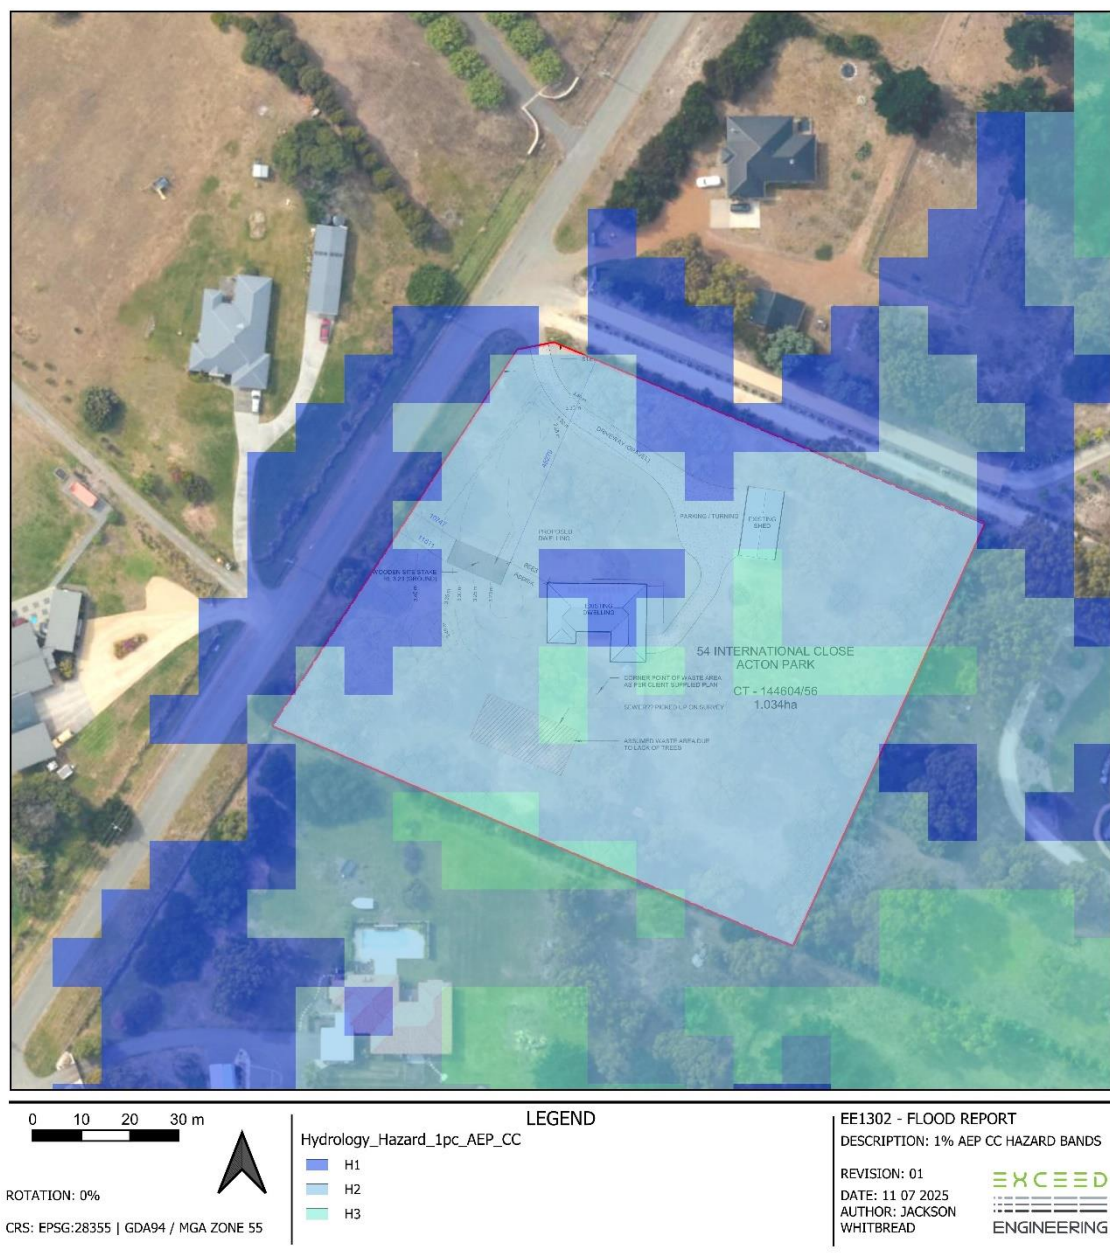
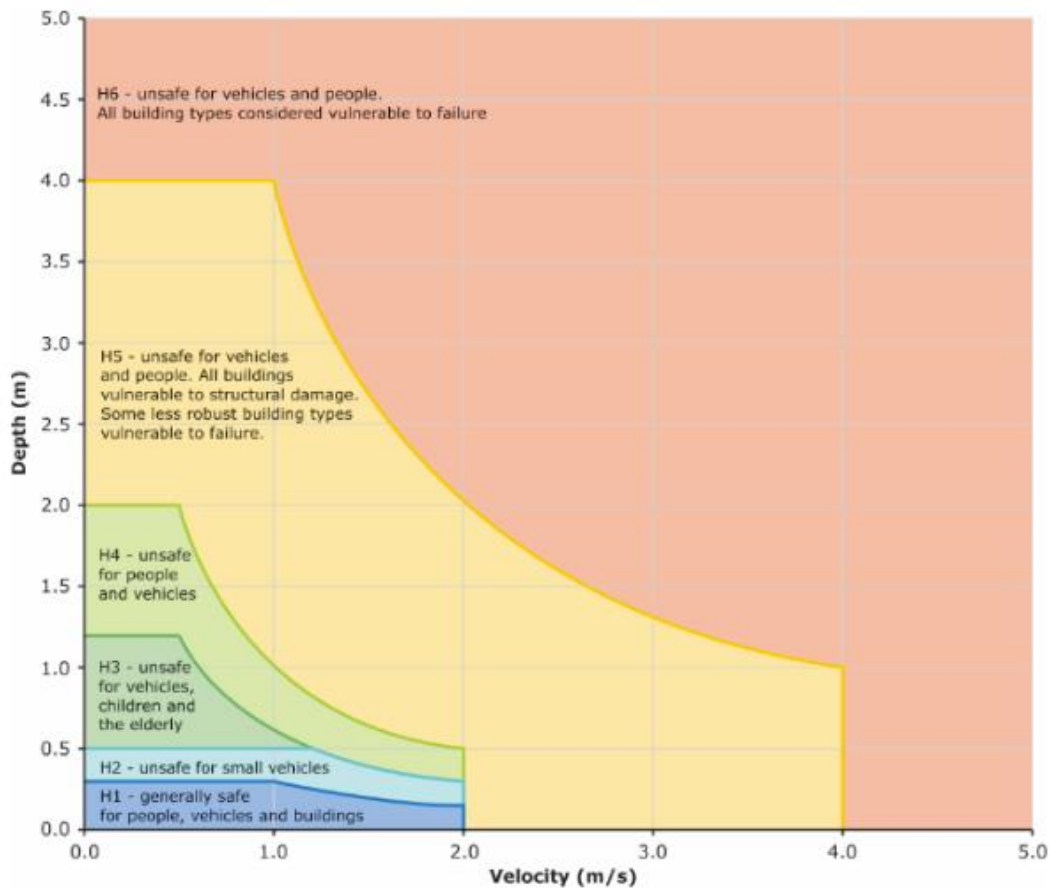
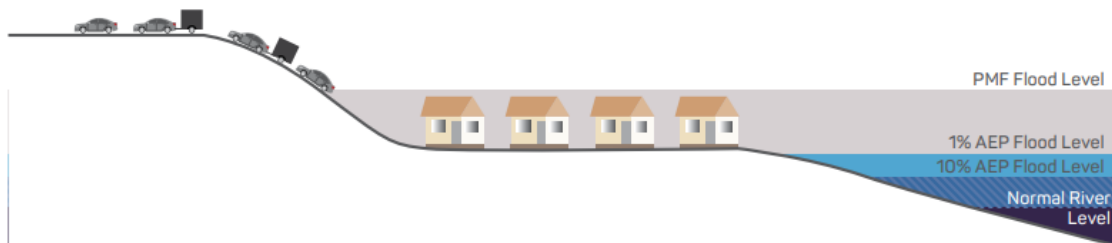

Figure 3 1% AEP Flood Hazard Bands 2100 Climate Change model (SES flood modelling data)
Figure 4 Flood hazard curves from Australian Disaster Resilience Handbook Collection, Guideline 7-3 - Flood Hazard
Figure 7 FER category, examples of evacuation with road access. Source: The Australian Disaster Resilience Guideline 7-2 Flood Emergency Response Classification
The area of the site proposed for development is classified as Hazard Category H2 – Unsafe for Small Vehicles, in accordance with the SES 1% AEP Climate Change (CC) flood hazard modelling, refer Figure 3 and Figure 4.
The development area has a maximum hazard rating of H2, in reference to The Australian Disaster Resilience Handbook Collection, Guideline 7-3 - Flood Hazard. This classifies flood hazard bands based on flood velocity and water depth, and the vulnerability of the community when interacting with floodwaters (Figure 4).
small car, refer **Figure 6** and **Figure 7**. Residents can evacuate in a northerly direction to International Close which is outside the modelled 1% AEP flood extent (refer **Figure 3**), providing a safe and viable evacuation route during flood events.